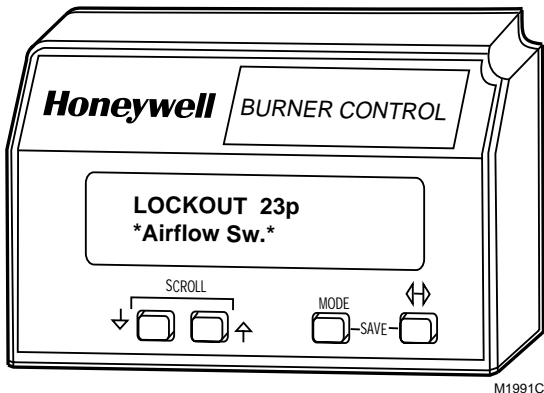

Fig. 13. Lockout message, State 1.
1. State 1 (Fig. 13). A first state message display lasts six seconds. First line displays the word LOCKOUT followed by the fault code number and possibly a lower case letter if an Expanded Annunciator is connected. The letter corresponds to the first-out code supplied by the Expanded Annunciator. The lockout reason corresponding to the fault code number is displayed on the second line, highlighted by asterisks on each side.